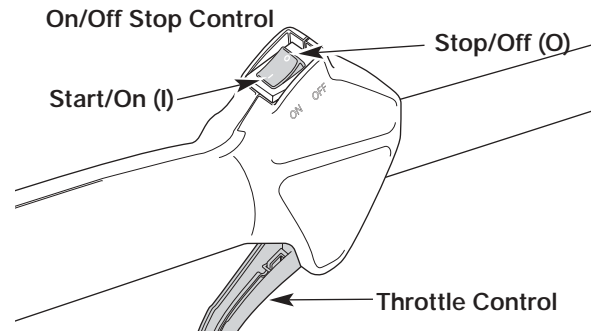

Figure 6
2. Make sure the On/Off Stop Control is in the **ON (I)** position. See Figure 6.
2. Push and hold the On/Off Stop Control in the **OFF (O)** position until the engine stops running. See Figure 6